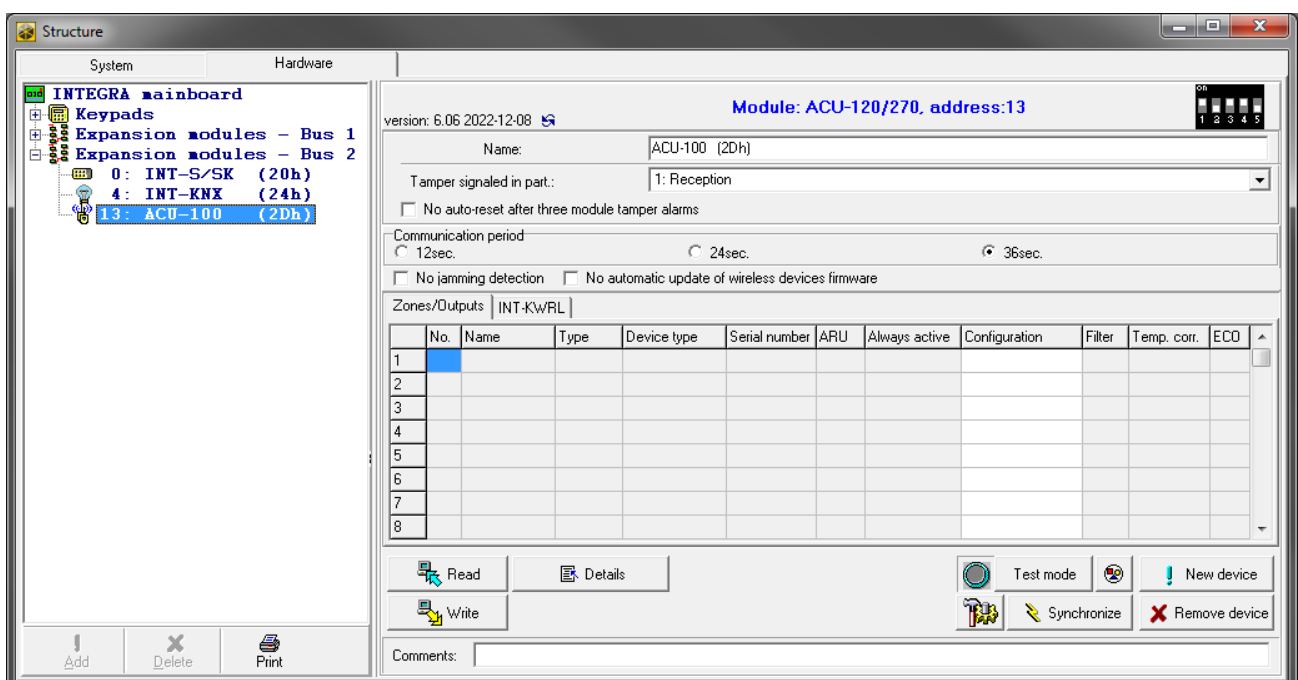

Fig. 24. DLOADX program: controller settings in the INTEGRA system.
- DLOADX program: “Structure” window → “Hardware” tab → “Expansion modules” branch → [controller name] (Fig. 24).